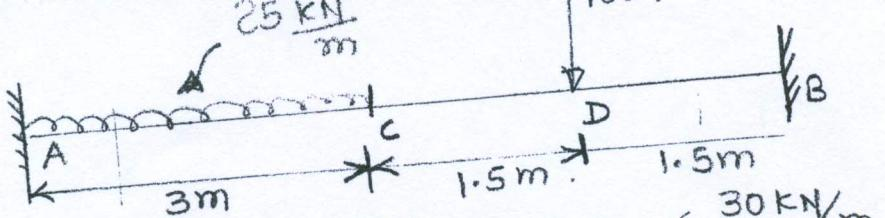

Fig.1
- (A) Give advantages and disadvantages of fixed beam. [5]
- (B) Enlist losses in prestressed material .Explain any one in detail. [5]
- (C) Analyze propped cantilever beam as shown in Fig.1. [5]